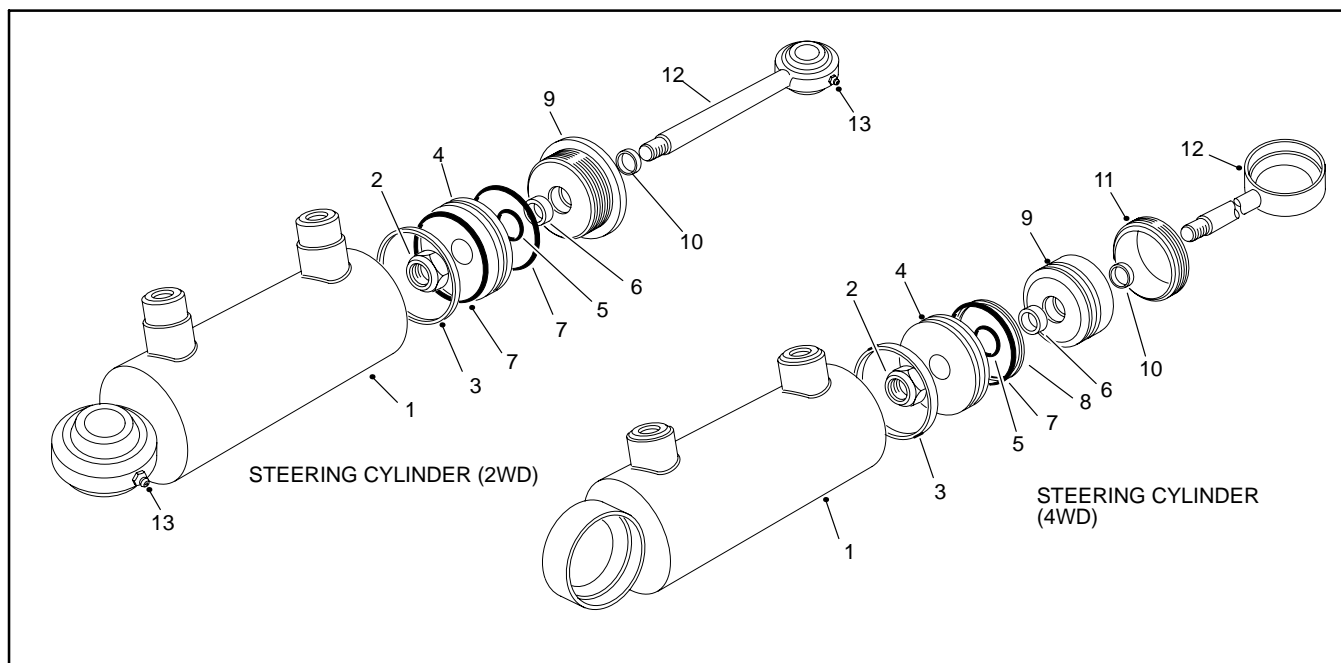

Figure 18
4. Use a spanner wrench to unscrew (counterclockwise) head from barrel (Fig. 18).